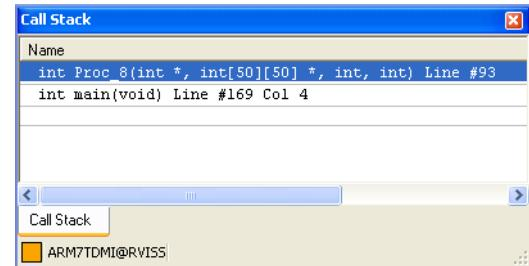

Figure 10-6 Call Stack view
7. Display the Call Stack view if it is not already visible. Figure 10-6 shows the Call Stack view for this example. The scope is located at line 93 in dhry_2.c.